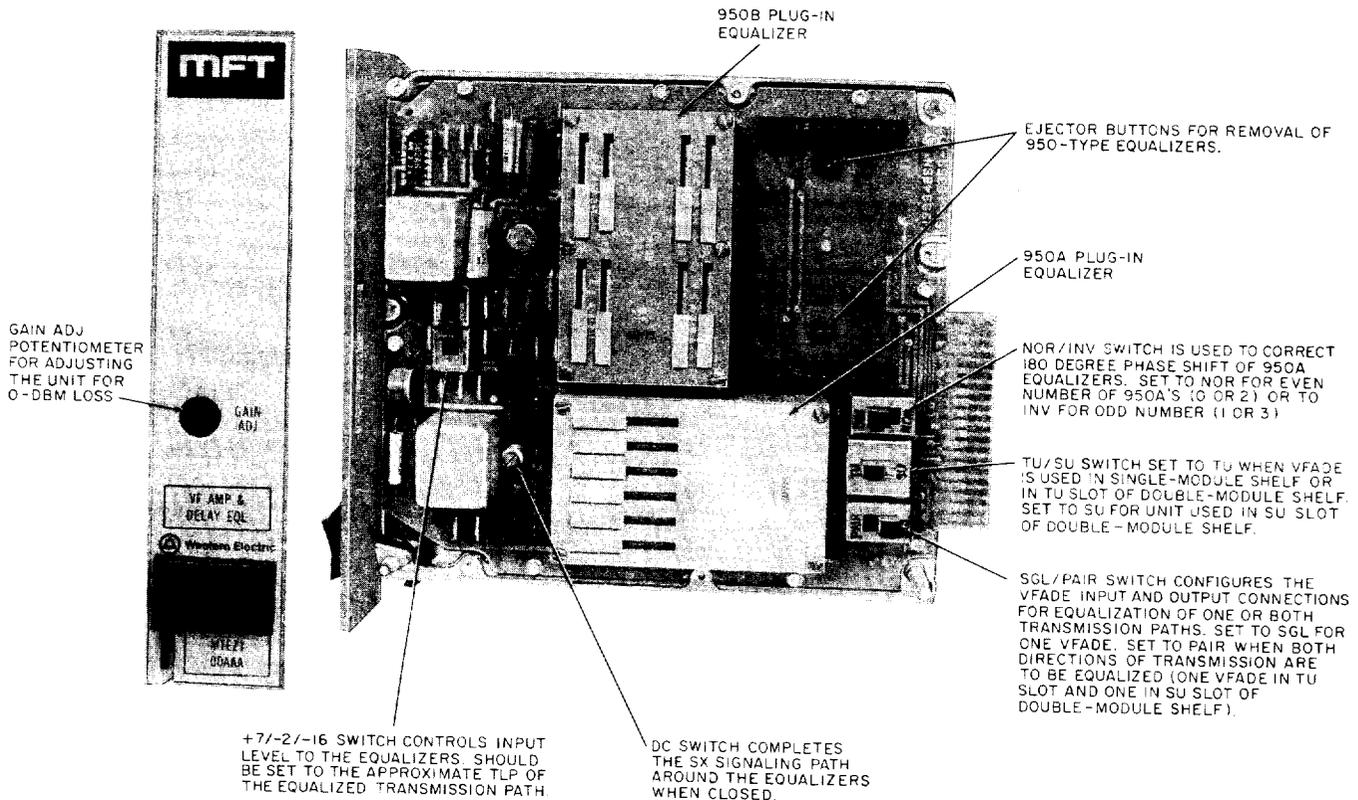

Fig. 1—Voice-Frequency Amplitude and Delay Equalizer
2.01 The VFADE (Fig. 1) is identical in size to all other MFT plug-ins. It may be used in single-module shelves or in either slot of the double-module shelves by operating the proper slide switches.